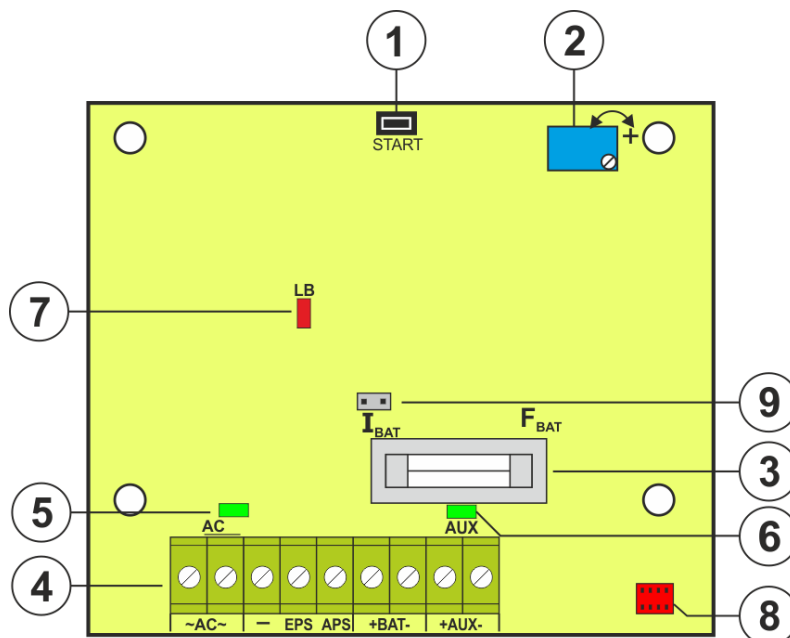
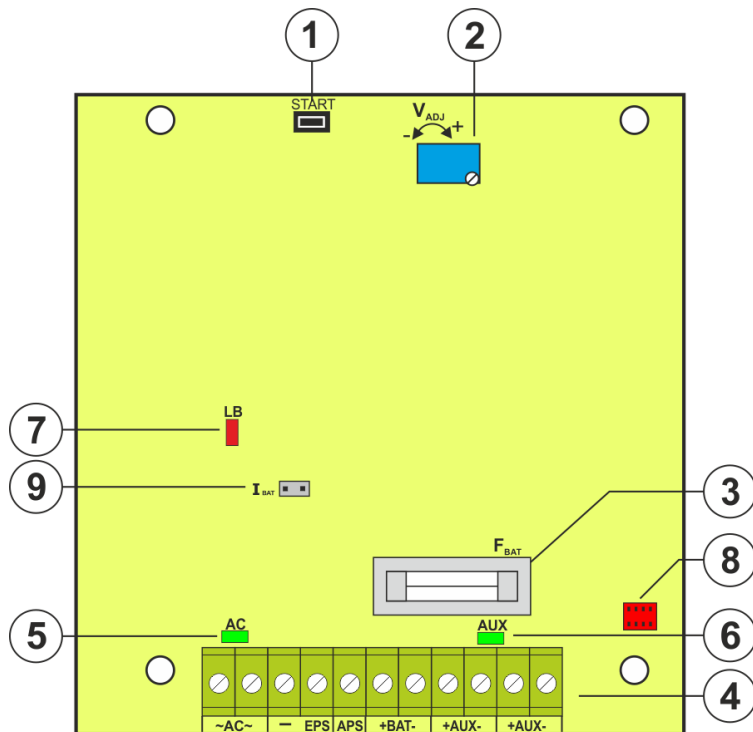
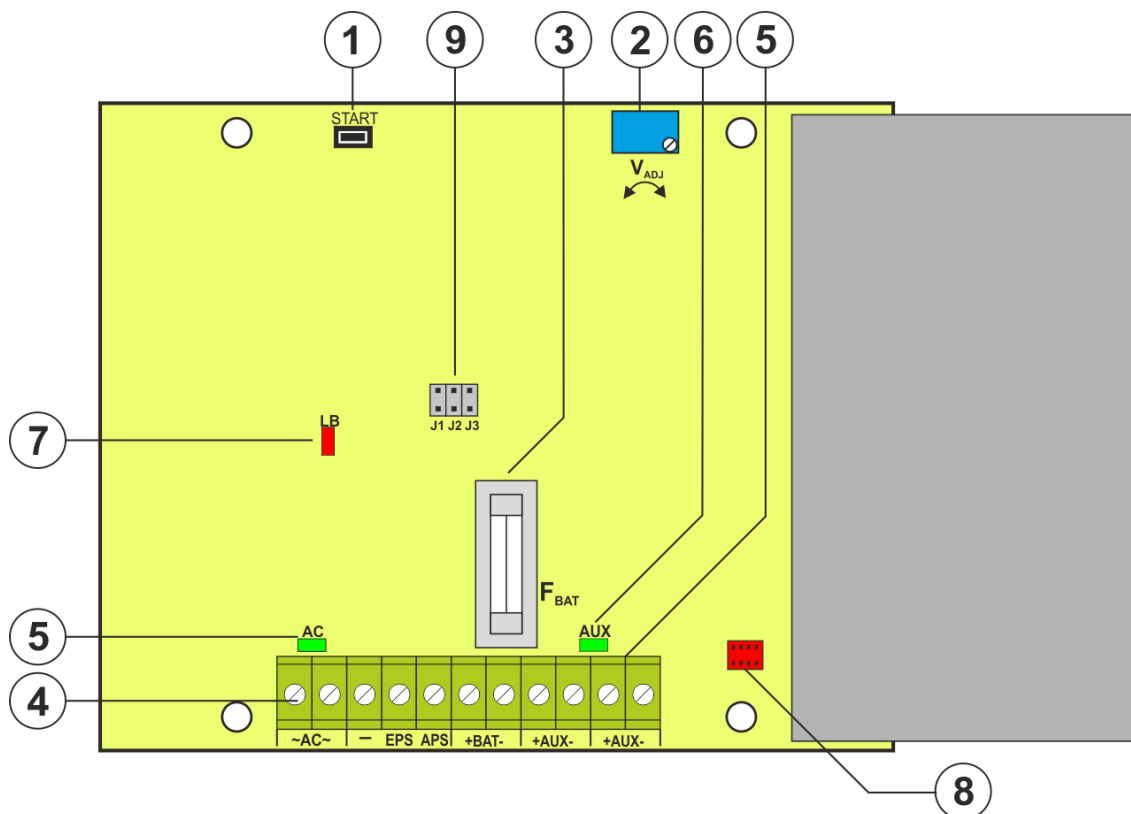

Fig. 2a. View of PCB board of 12V2A model
Fig. 2b. View of PCB board of 12V3A / 24V2A model
Fig. 2c. View of PCB board of 12V5A / 24V3A model
①	START button (launching from battery)
②	$V_{ADJ}$ potentiometer, adjustable output voltage
③	$F_{BAT}$ fuse in the battery circuit
④	Terminals: ~AC~ – AC power input EPS – technical output of AC power loss indication hi-Z state = AC power failure 0V state = AC power - O.K. APS – technical output of battery failure hi-Z state = failure 0V state = PSU status O.K. +BAT- – terminals for battery connection +AUX- – DC power supply output, (+AUX= +U, -AUX=GND) Description: hi-Z – high impedance, 0V – connection to the ground GND
⑤	LEDs – AC – indication of presence of main power
⑥	LEDs – AUX – power supply output voltage indication
⑦	LEDs – LB – battery charging indication
⑧	Connector to the external LED indicators
⑨	Jumper <math>I_{BAT}</math>: – battery charging current configuration  Power supply unit 12V2A (see Fig 2a) <ul style="list-style-type: none"> <li>• <math>I_{BAT}</math> = , <math>I_{BAT} = 0,2 A</math></li> <li>• <math>I_{BAT}</math> = , <math>I_{BAT} = 0,5 A</math></li> </ul> Power supply unit 12V3A / 24V2A (see Fig 2b) <ul style="list-style-type: none"> <li>• <math>I_{BAT}</math> = , <math>I_{BAT} = 0,5 A</math></li> <li>• <math>I_{BAT}</math> = , <math>I_{BAT} = 1,0 A</math></li> </ul> Power supply unit 12V5A (see Fig 2c) <ul style="list-style-type: none"> <li>• J1=  J2=  J3=  <math>I_{BAT} = 0,5A</math></li> <li>• J1=  J2=  J3=  <math>I_{BAT} = 1A</math></li> <li>• J1=  J2=  J3=  <math>I_{BAT} = 2A</math></li> </ul> Power supply unit 24V3A (see Fig 2c) <ul style="list-style-type: none"> <li>• <math>I_{BAT}</math> = , <math>I_{BAT} = 0,5 A</math></li> <li>• <math>I_{BAT}</math> = , <math>I_{BAT} = 1,0 A</math></li> </ul> Description:  jumper installed,  jumper removed